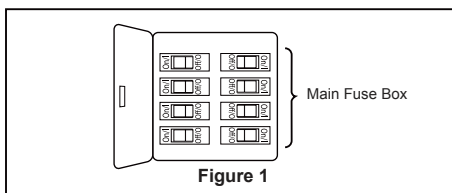
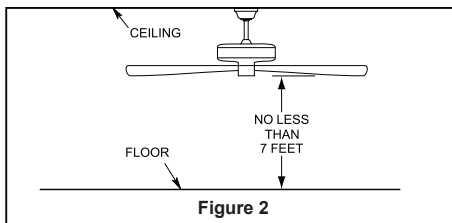
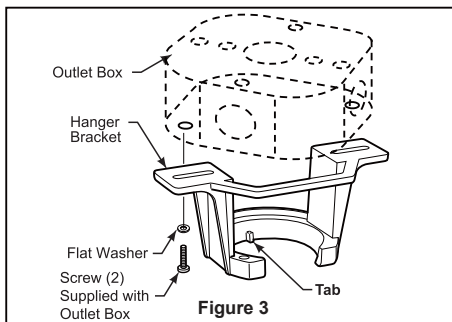

Figure 1
Figure 2
Figure 3
Your new ceiling fan will require a grounded electrical supply line of 120 volts AC, 60 HZ, 15 Amp Circuit. Electrical code requires use of a fan-rated outlet box to support the extra weight and motion associated with a ceiling fan. A fan-rated box will be labeled as such and typically supports up to a 70lb ceiling fan. Fan-Rated Outlet Boxes vary in ratings and design. Ensure the ratings of your ceiling fan outlet box meet the requirements for the ceiling fan being installed. Figure 1, Figure 2 and Figure 3 depicts different structural configurations that may be used for mounting the outlet box.
Low profile box (Figure 1)
Deep box (Figure 2)
Deep box with brace (Figure 3)
1. Remove the hanger ball portion from the downrod/hanger ball assembly by loosening the set screw in the hanger ball until the ball falls freely down the downrod. Remove the pin from the downrod, then remove the hanger ball. (Figure 1)
2. Remove the hairpin clip and clevis pin from the bottom of the downrod. Retain the pin and clip for reinstallation in Step 4. (Figure 2)
3. Loosen the two set screws and locking nuts in the downrod support of the motor assembly. Route the brown, blue, red, gray and yellow wires through the downrod. (Figure 3)
1. Slide blades through slots in motor assembly. Make sure the blade is fully seated against the blade holder of motor assembly. Place blade plate over the blade with holes aligned and assemble blade to blade holder using serrated head screws. Tighten screws firmly, but do not over-tighten. (Figure 1)
To avoid possible fire or shock, be sure electricity is turned off at the main fuse box before hanging. (Figure 1)
The fan must be hung with at least 7' of clearance from floor to ceiling fan. (Figure 2)
1. Securely attach the hanger bracket to the outlet box (not included) using the outlet box screws and washers supplied with the outlet box. (Figure 3)
1. To set the code on receiver unit, slide dip switches to the same positions as set on the remote control. (Figure 1)
To avoid possible electrical shock, be sure electricity is turned off at the main fuse box before wiring. (Figure 2)
2. Slide the receiver into the hanger bracket before wiring as shown in figure 3.
1. Assemble canopy by rotating key slot in canopy over shoulder screw in hanger bracket, taking care not to pinch the wires. Tighten shoulder screw. Fully assemble and tighten second shoulder screw that was previously removed. (Figure 1)
2. Securely attach and tighten the canopy screw cover over the shoulder screws in the hanger bracket utilizing the key slot twist-lock feature. (Figure 2)
1. Remove one of the three screws in the support bracket at the bottom of the motor assembly. Retain the screw for later and slightly loosen the remaining two screws. (Figure 1)
2. Assemble the light kit to the support bracket using the two key slots in the light kit. Replace the previously removed screw and securely tighten all three screws. (Figure 2)
3. Remove one of the three screws in the light kit. Retain the screw for later and slightly loosen the remaining two screws. (Figure 3)
1. **IMPORTANT:** Using a full range dimmer switch (not included) to control fan speed will damage the fan. To reduce the risk of fire or electrical shock, do not use a full range dimmer switch to control the fan speed. (Figure 1)
2. Restore electrical power to the outlet box by turning the electricity on at the main fuse box. (Figure 2)
3. Remove the battery cover from remote control by screwdriver and retain the screw for later. (Figure 3)